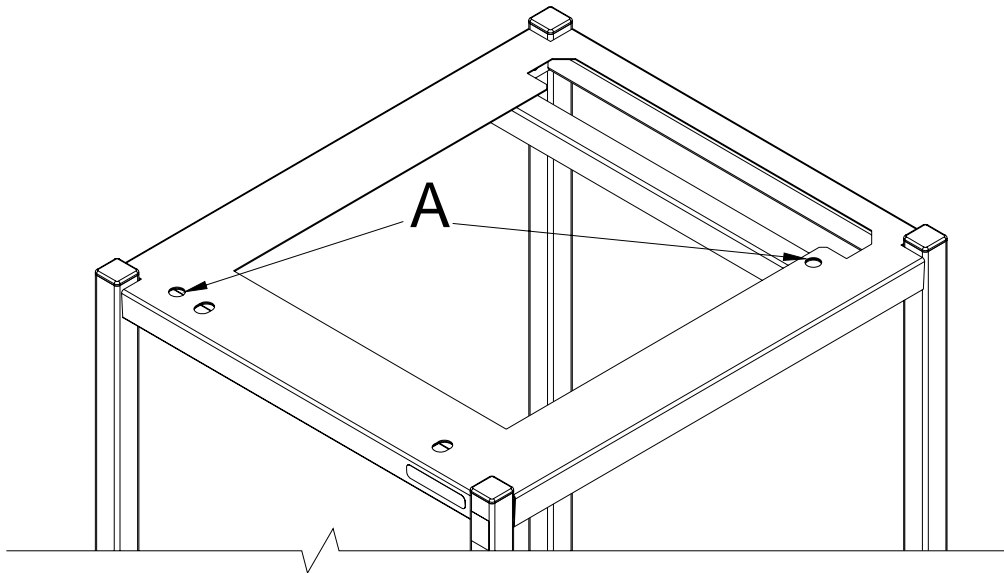

Figure 1
6. Align the steamer so that the left front and right rear mounting bolts will come up through holes "A" indicated in Figure 1.